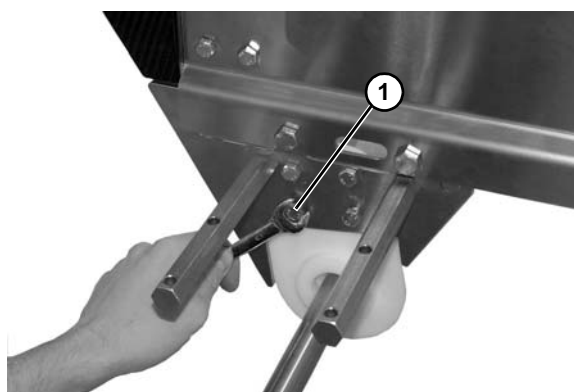

Figure 40
7. Remove the four head plate bolts (Figure 40, item 1) on both sides of conveyor.